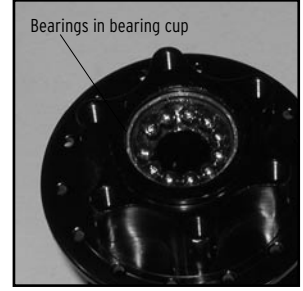

Fig. 6A
2. Place the shell shield, with its sharp edges facing out (Fig. 6A), into the hub. The shell shield is a press fit, so must be tapped lightly to fully seat. Lay a cone wrench over the shell shield and tap the wrench with a hammer (Fig. 7A) to protect the shield and ensure that it is flush with the shell.